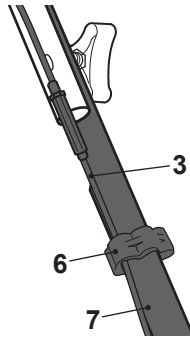

Fig. 4
7. Fix the brake wire (3) with the wire clip (6) on the lower handle bar (7) (Fig. 4).